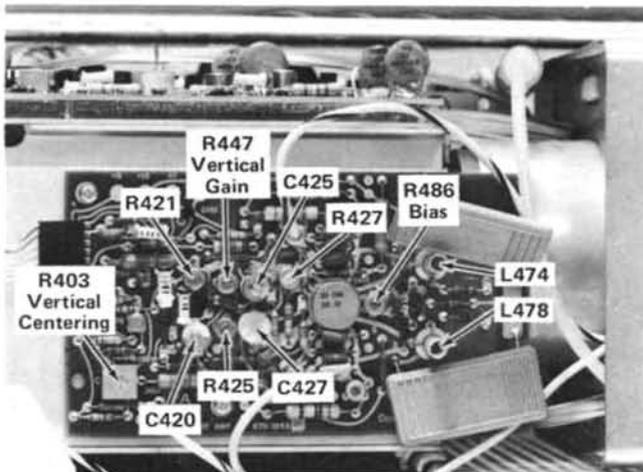

Fig. 2-3. Location of Vertical System adjustments (Vertical Output board).
- d. ADJUST—Bias R486 for maximum gain. (See Fig. 2-3.)
- c. ADJUST—Vertical Centering adjustment R403 (see Fig. 2-3) to position the trace to the center horizontal line.
- d. ADJUST—Vertical Gain adjustment R447 (see Fig. 2-3) for exactly six divisions of deflection between the second and sixth traces.
d. Adjust—High-frequency compensation as given in Table 2-2 for optimum square leading corner and flat top with minimum aberrations within limits given in part c. Location of adjustments is shown in Fig. 2-3. Use the low capacitance screwdriver to adjust the variable capacitors. Repeat the complete adjustment procedure several times to obtain optimum adjustment.